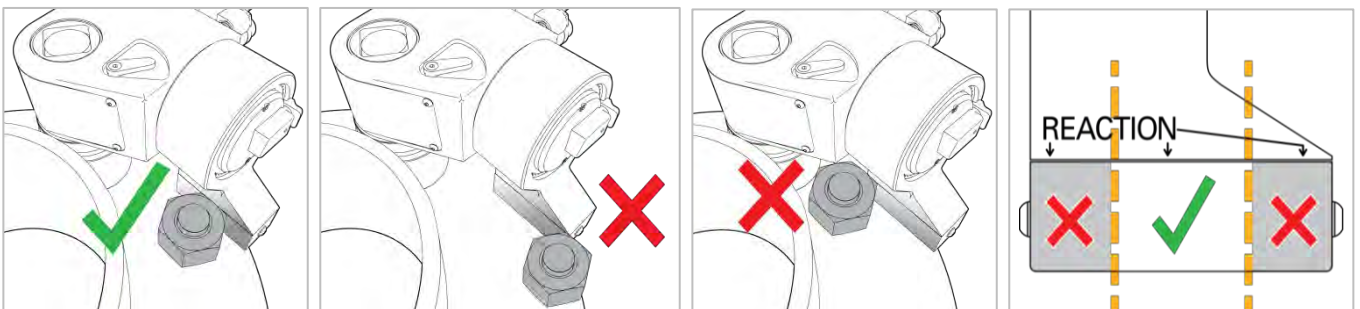

FIGURE 6 – Safe Reaction Areas on the NSD Reaction Arm
Reaction should always be taken on a flat surface and as close to the middle of the reaction arm/pad as possible, see FIGURE 6. Do not take reaction on a sloped or rounded surface, as this may cause the tool to deflect or slip off.
3. Ensure the bolt is reacting flat against the reaction arm and is placed in the middle of the reaction arm. Do not take reaction at either end of the reaction arm, see FIGURE 6 and 8.